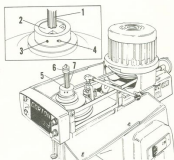

Figure 18. Spindle Anti-Backlash Adjustment
48. SPINDLE ANTI-BACKLASH (Figure 18)